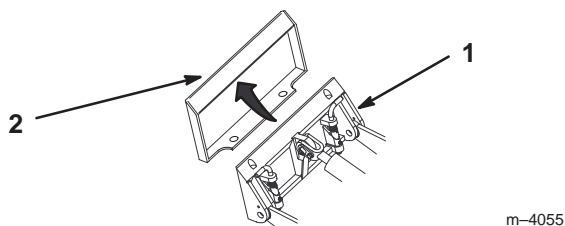

Figure 14
5. Position mount plate into the upper lip of the attachment receiver plate (Fig. 14).